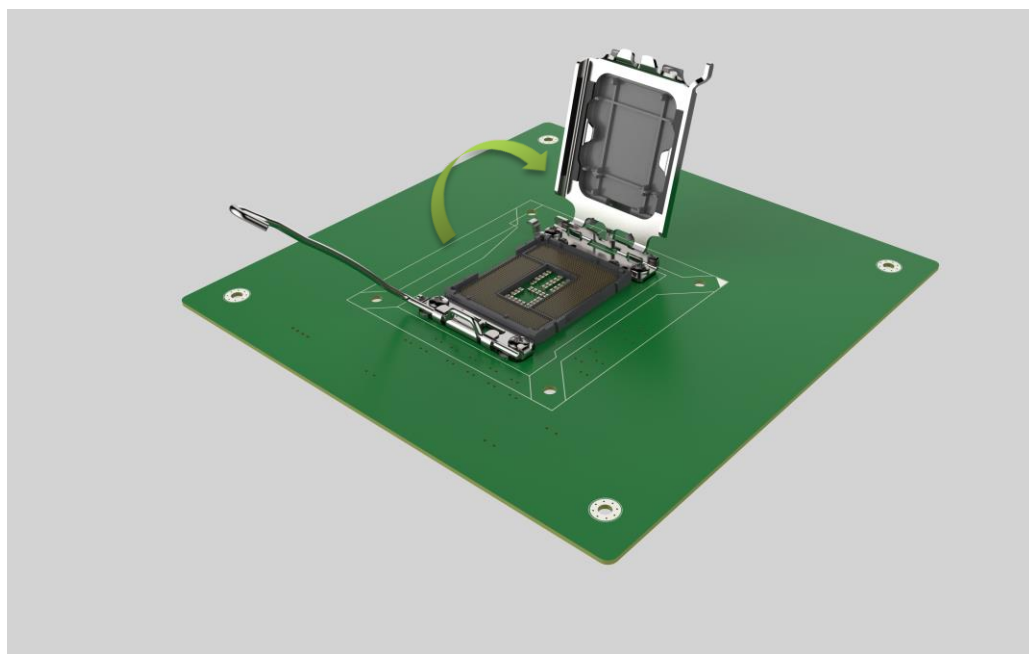

Figure 4-4: Remove Protective Cover
Step 2: Open the socket and remove the protective cover. The black protective cover can be removed by pulling up on the tab labeled "Remove". See **Figure 4-4**.